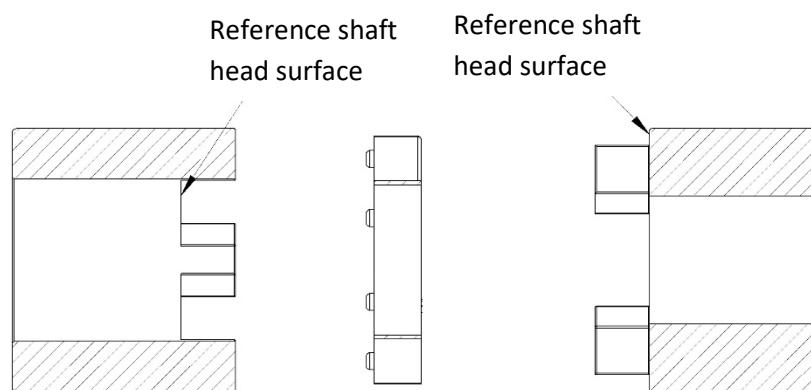

Fig.2
1. The half-couplings must be fully keyed onto the shafts so that the head of the shafts is flush with the respective reference surfaces, as shown in Fig. 2.